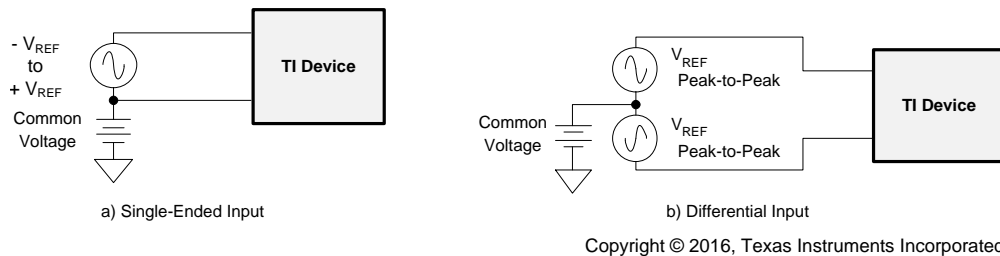
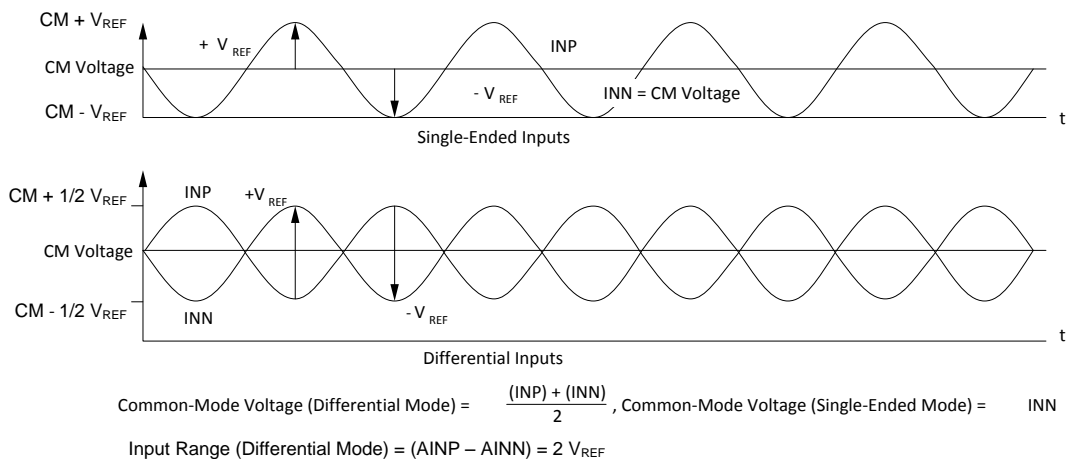

Figure 20. Methods of Driving the ADS1299-x: Single-Ended or Differential
Figure 21. Using the ADS1299-x in Single-Ended and Differential Input Modes
The ADS1299-x analog input is fully differential. Assuming $PGA = 1$, the input ($INxP - INxN$) can span between $-V_{REF}$ to $+V_{REF}$. See Table 9 for an explanation of the correlation between the analog input and digital codes. There are two general methods of driving the ADS1299-x analog input: single-ended or differential (as shown in Figure 20 and Figure 21, respectively). Note that $INxP$ and $INxN$ are 180° out-of-phase in the differential input method. When the input is single-ended, the $INxN$ input is held at the common-mode voltage (CM), preferably at mid-supply. The $INxP$ input swings around the same common voltage and the peak-to-peak amplitude is $(CM + V_{REF})$ and $(CM - V_{REF})$. When the input is differential, the common-mode is given by $[(INxP + INxN) / 2]$. Both $INxP$ and $INxN$ inputs swing from $(CM + 1/2 V_{REF})$ to $(CM - 1/2 V_{REF})$. Drive the inputs of the ADS1299-x in a differential configuration for optimal performance.